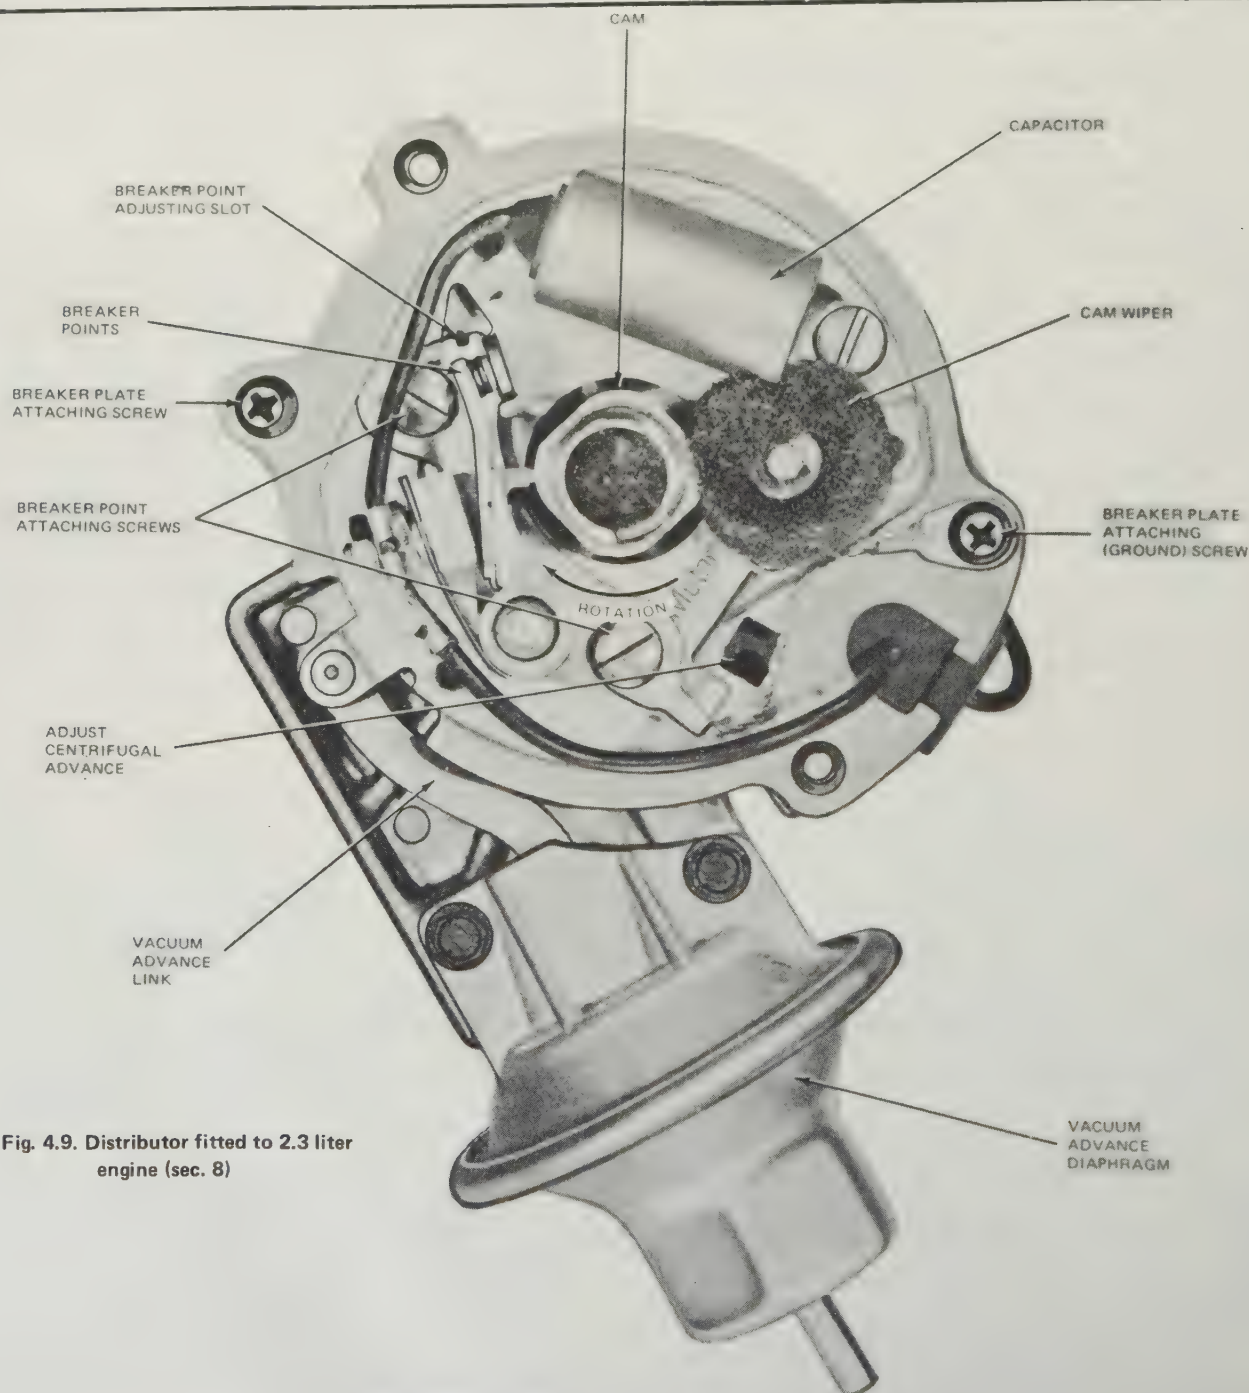

Fig. 4.9. Distributor fitted to 2.3 liter engine (sec. 8)
- 1 With the distributor on the bench, remove the cap and rotor (Fig. 4.9).